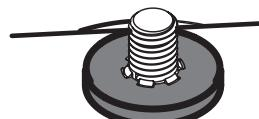

Figure 42
2. Carefully place the flat washer on the spindle shaft. Be sure that the splines at the base of the spindle shaft threads line up with the washer splines. See Figure 42.